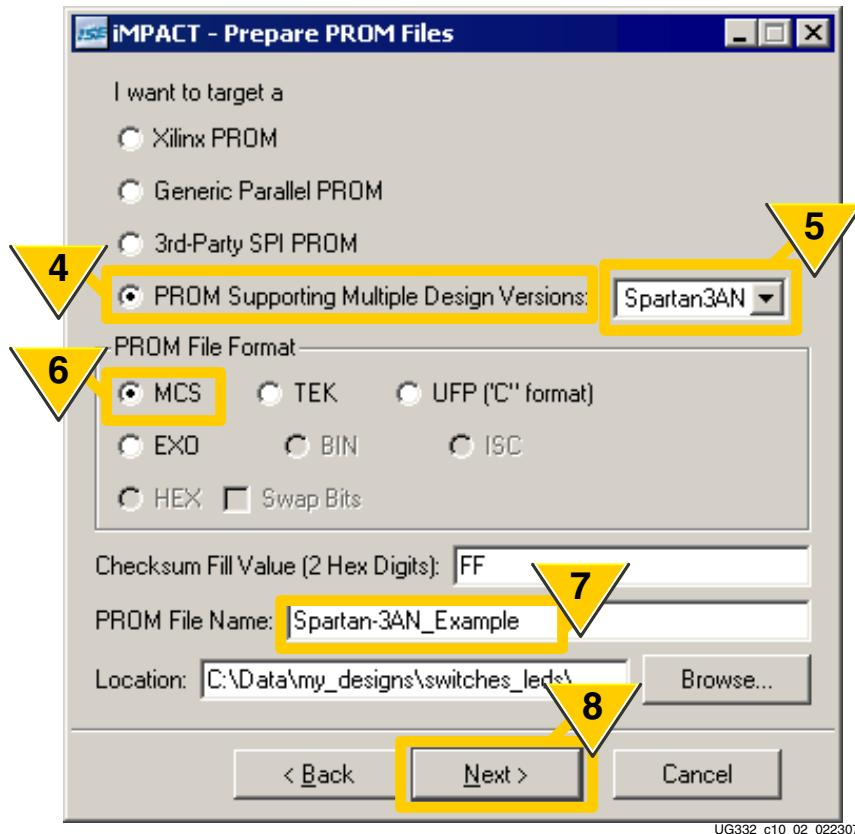

Figure 10-5: Set Options for Spartan-3AN In-System Flash PROM
4. As shown in Figure 10-5, format the FPGA bitstream or bitstreams for a **PROM Supporting Multiple Design Versions**.